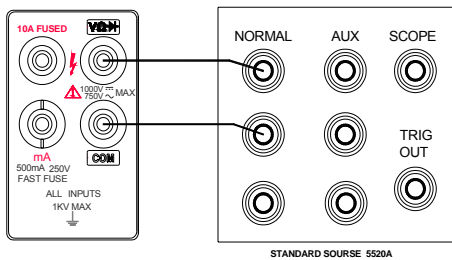

Figure 4-1
1. Connect a test lead from the Output NORMAL HI and LO connectors of the 5520A to the $\boxed{V\Omega}$ and COM connectors on the meter (see Figure 4-1).